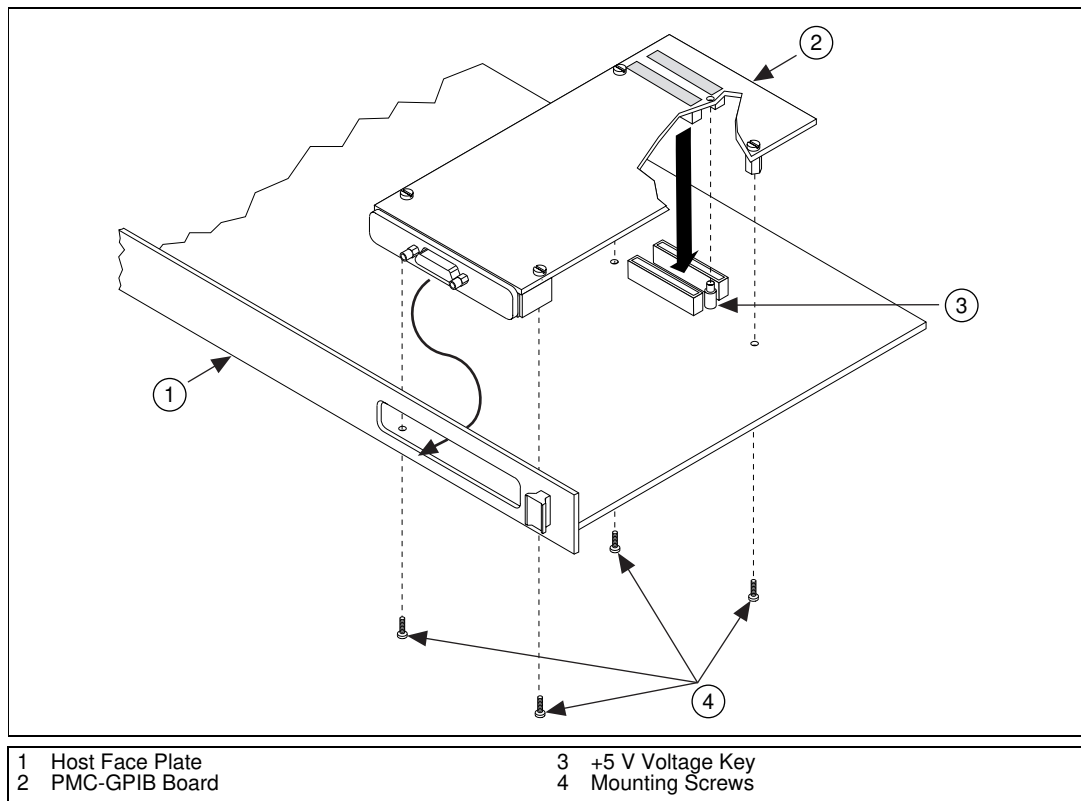

Figure 2-4. Installing the PMC-GPIB
5. Insert the PMC-GPIB into the 5 V slot as shown in Figure 2-4. It might be a tight fit, but do not force the board into place.